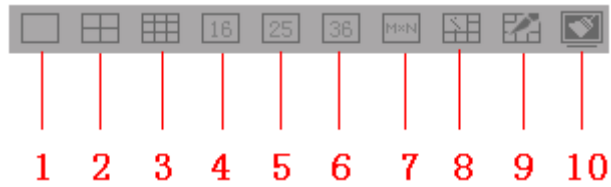
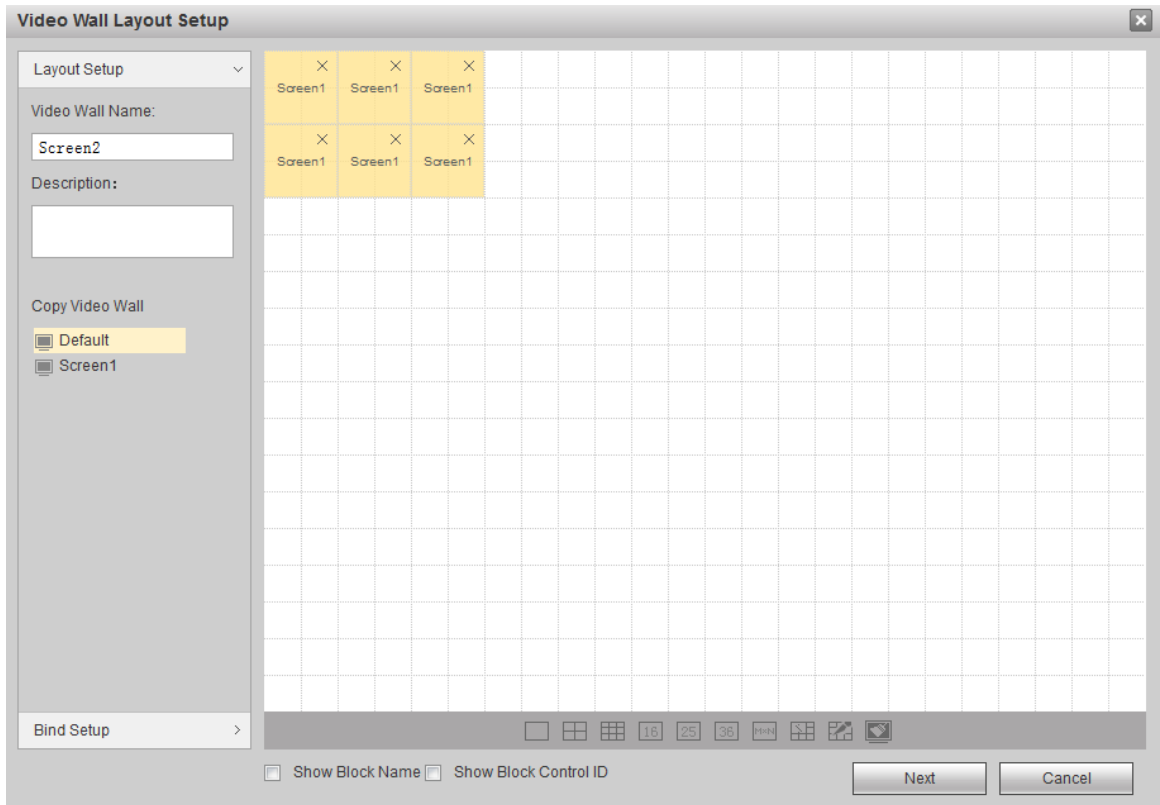

Figure 4-95
Figure 4-96
2. Click interface icons to add single video wall and splicing video wall quickly, as shown in Figure 4-95. After adding them, the interface is shown in Figure 4-96.